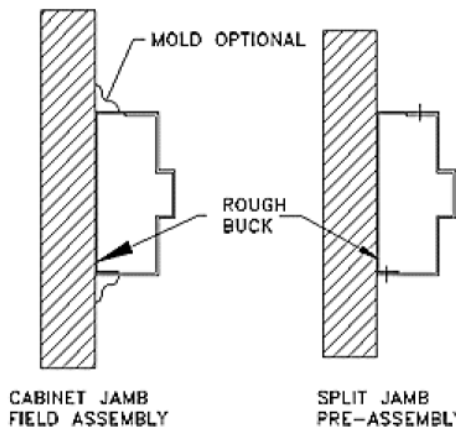

Figure 10
10. Rough Buck: (Figure 10) A pre-assembled, split Frame, punched for machine bolts and expansion shields.